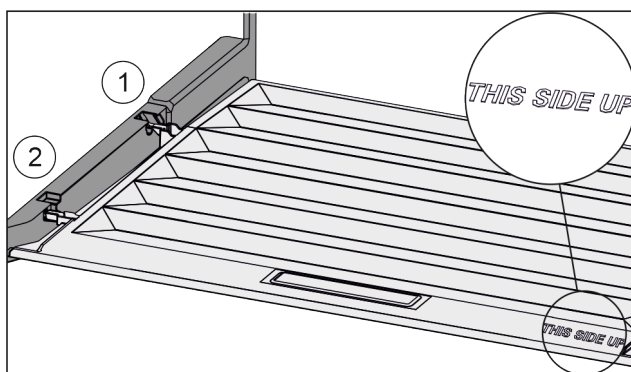

Fig. 138
- ▶ Insert the lip of the cover over the opening of the rear bracket *Fig. 138 (1)* and click into place *Fig. 138 (2)*.